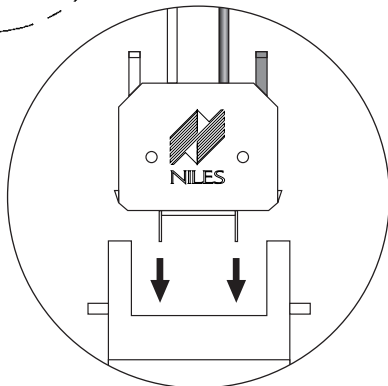

Figure 20
4. Insert the no strip terminal into the corresponding socket on the rear of the speaker. Push it down until it locks in place. The terminal will only fit in the socket in one direction. If the terminal does not properly seat, reverse the terminal 180° and re insert (See Figure 20).